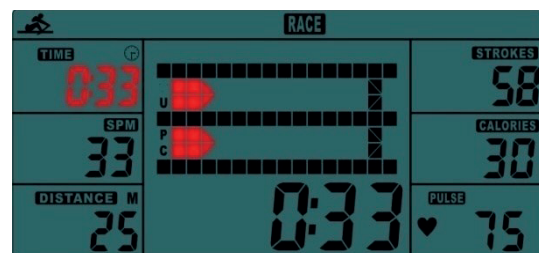
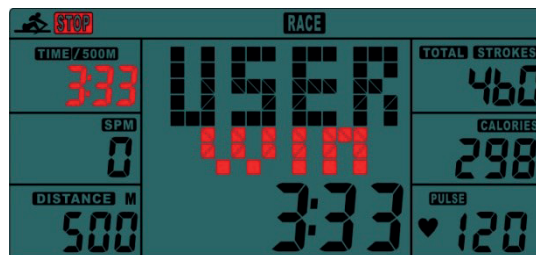

Fig.6
Fig.7
A. Press START button to start and STOP will disappear. USER and PC will display in the matrix (Fig.6). The computer will stop when either user or computer has reached the race distance that was set. Then the matrix displays "PC WIN" or "USER WIN" (Fig.7).